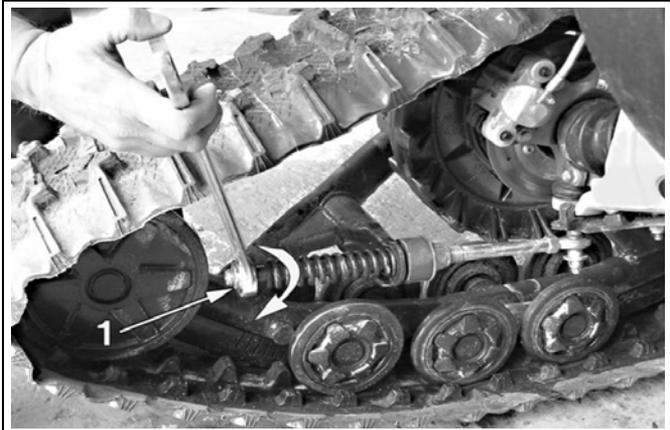
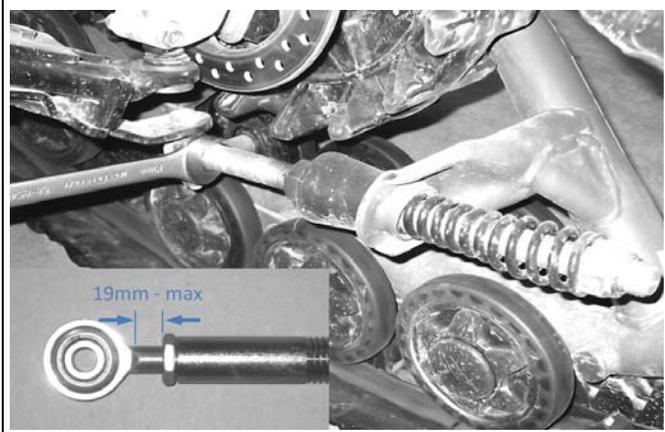

Figure 6
Figure 7
- Turn the nut (1) until it comes in contact with the spring, then compress the spring by turning this nut 1 1/2 turns (refer to Figure 6).
NOTE: In certain rare cases, where the adjustment of the nut (article 1 on Figure 6) compressing the spring, is close to the end of the threaded rod, lengthen the assembly by loosening the locknut (see Figure 7) and unscrewing the rod end so that a maximum 19 mm of its threads are visible. Make sure that the locknut is well tightened after the installation.